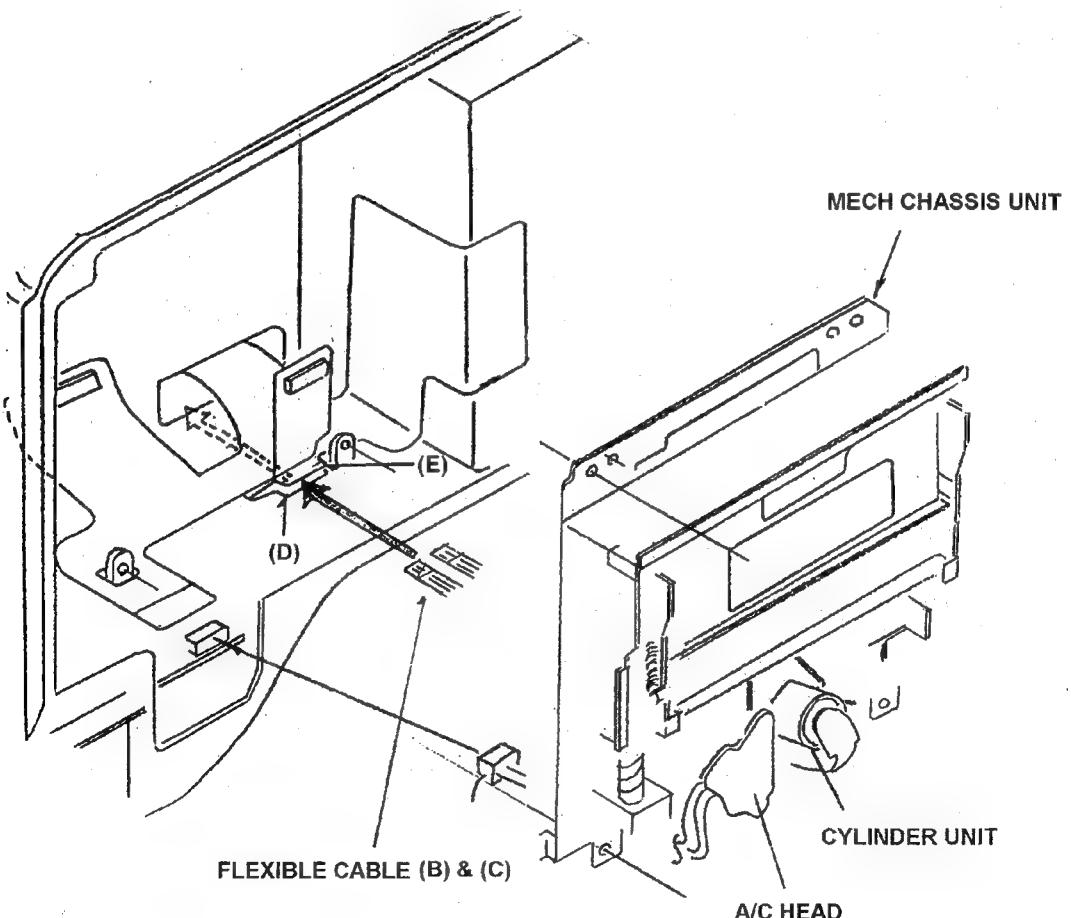

Fig. 10-1-5
**Note:** Please put the **flexible (B) and (C)** between **copper shield plate (D)** and **(E)** as shown in Figure 10-1-5.